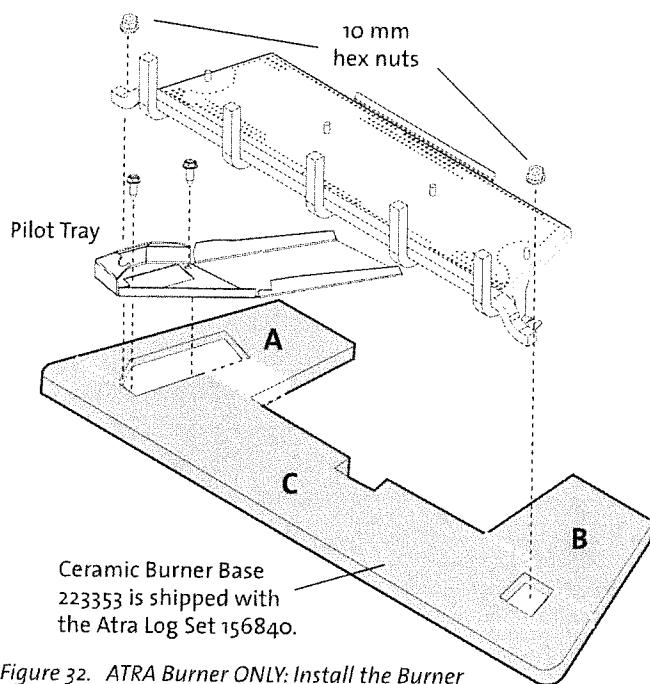

Figure 32. ATRA Burner ONLY: Install the Burner Base before installing the firebox panels.
If you have a three-piece base (fig. 32, Sections A, B, C):
4. Reinstall the Pilot Tray and Burner Assembly using the original screws and nuts. See fig. 32.